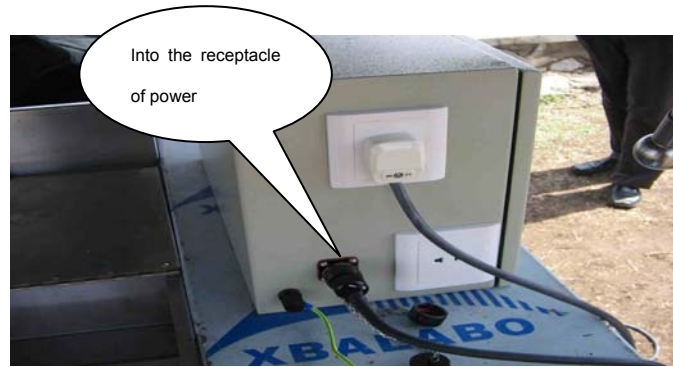

Fig. 2.5-3
3) Plug the power cable of the generator into the receptacle in the distribution box (As shown in Fig. 2.5-3).